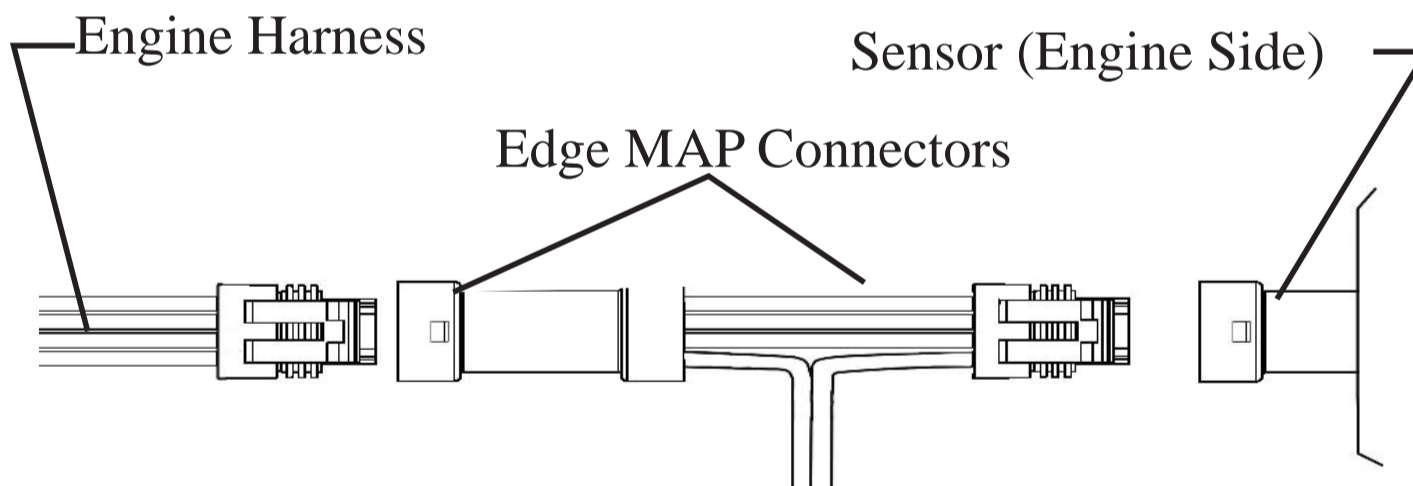

Figure 7 - "T" Assembly
2. Remove vehicle MAP sensor connector and connect the Edge Harness MAP connector "T" (see Figure 7) in between the vehicle harness and the sensor itself.
2. Remove vehicle Fuel Pressure Sensor connector and connect the Edge Harness Fuel pressure sensor connector "T" in between the vehicle harness and the sensor itself. (Similar to Figure 7 on previous page)